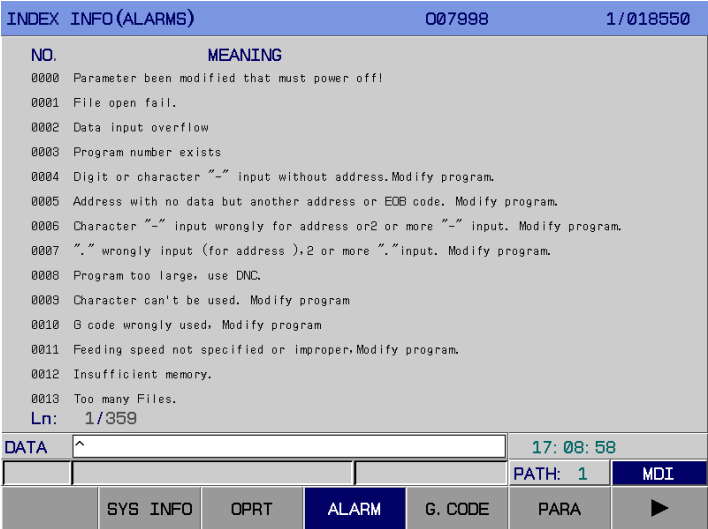

Fig. 3-9-3
3. ALARM page In <HELP> page, press soft key 【ALARM】 to enter this page. See fig. 3-9-3: